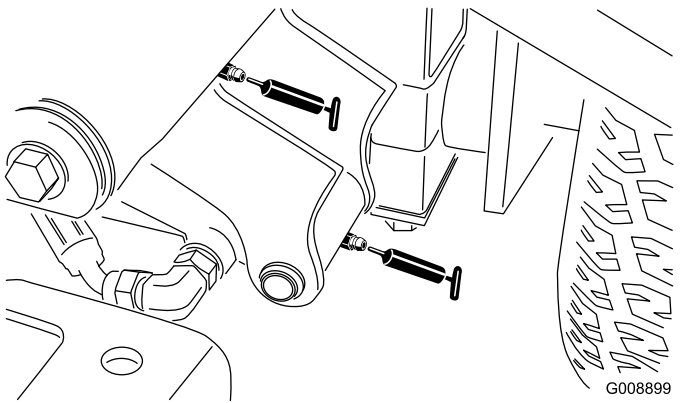

Figure 32
- 2 left, front lift-arm pivots and lift cylinder (Figure 32)